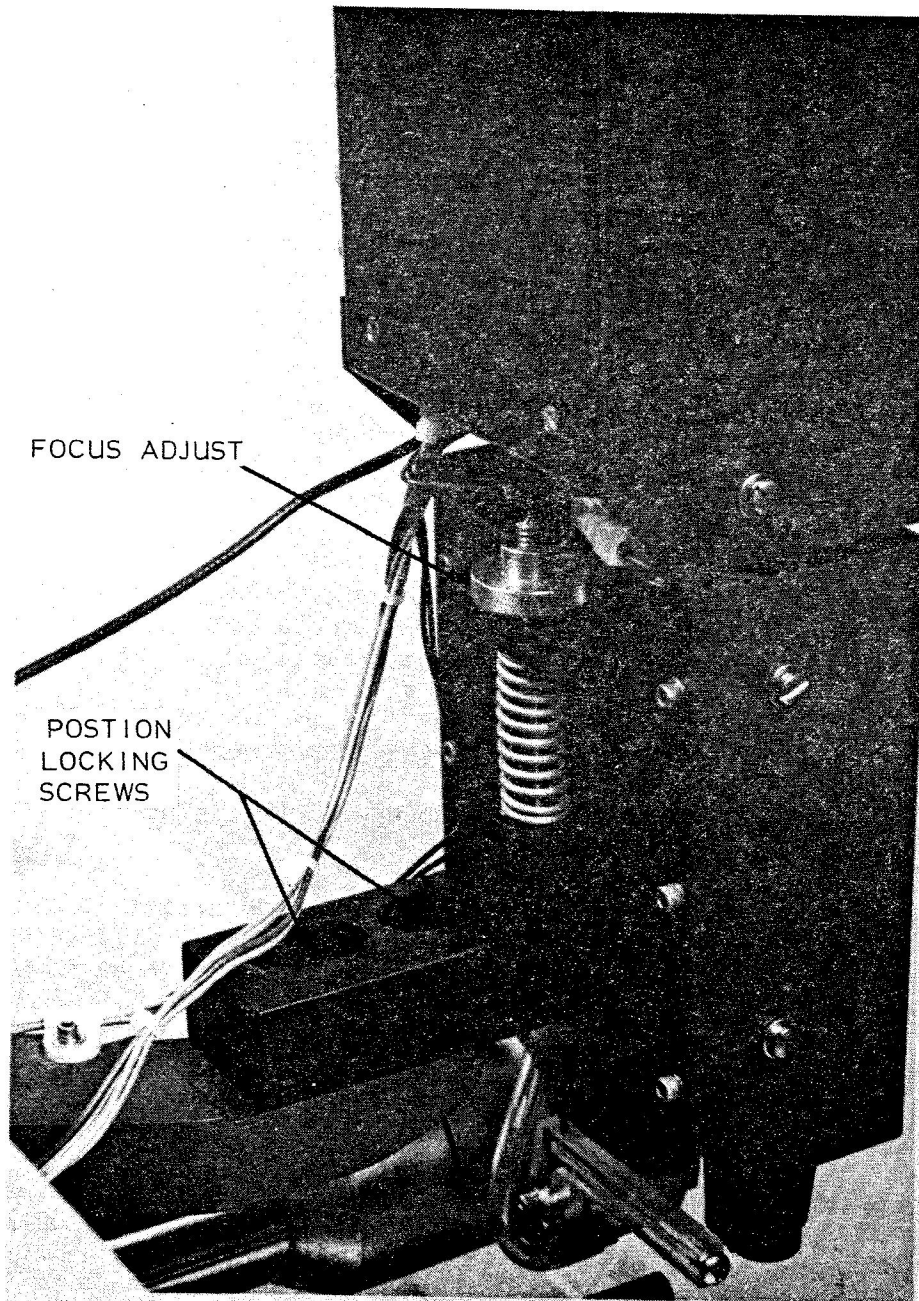

FIGURE 2-22
3. TV Microscope Assembly Adjustment (adjustable mount) Fig. 2-22 A.